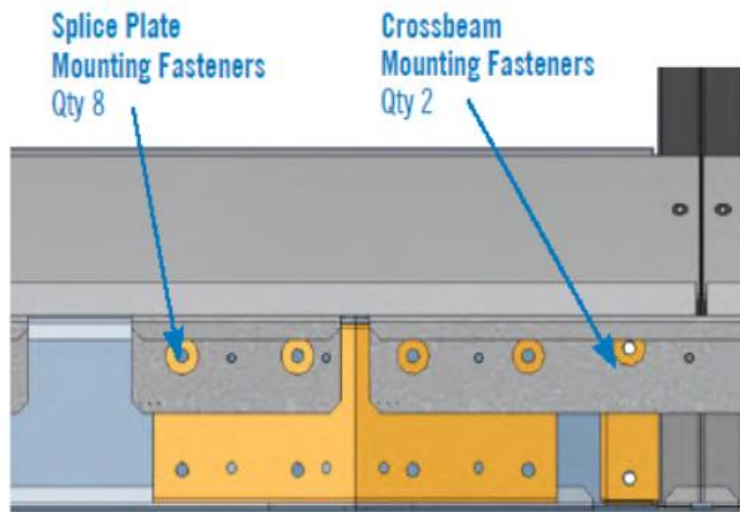

Figure 17. Inside beam splice plate and crossbeam mounting fastener locations
4. Slide the platforms until the crossmember cutout is aligned with the crossmember of the second section. Then slide the two sections together until the support beams are aligned, and the crossmember is seated into the cutout. See **Figure 17**.